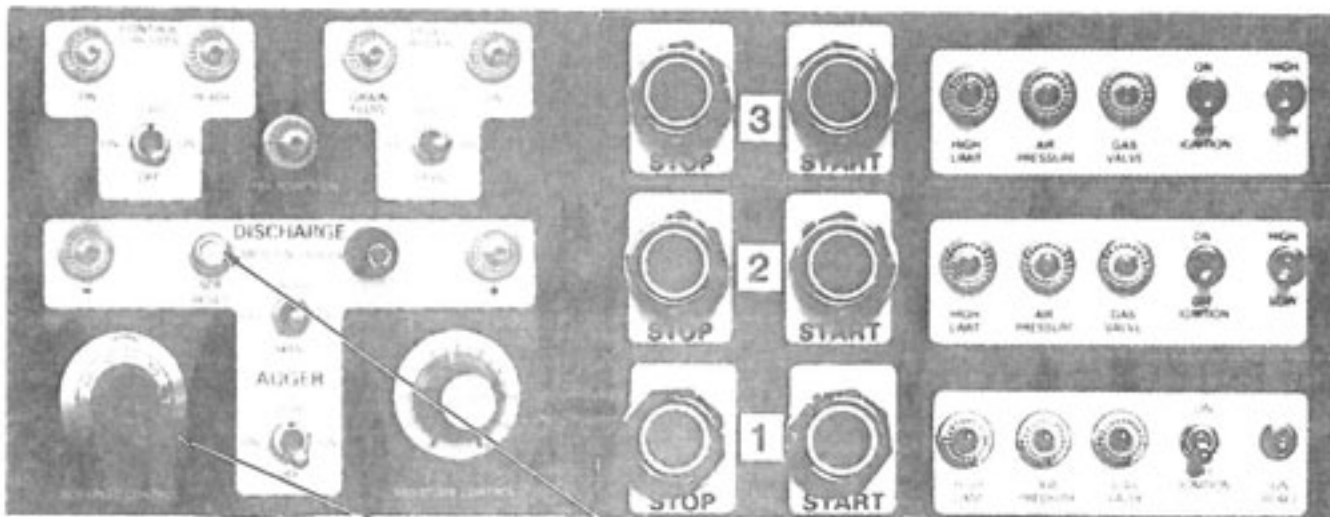

Figure 20
1. Flip all of the ignition switches on the base section control panel OFF and flip the HIGH-LOW FIRE switches to LOW, see Figure 20.
If the SCR drive motor does not start, push the SCR drive circuit breaker reset button in, see Figure 20.
12. The SCR drive speed control dial, Figure 20, is graduated from 0 (slow) to 10 (fast). Use the Grain Metering Roll Discharge Rate Chart Figure 21, as a guide to set the SCR drive speed control.